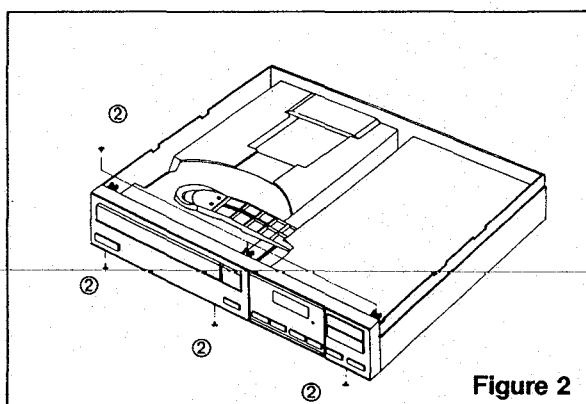

Figure 2
2. To Remove the Front Panel (Figure 2).